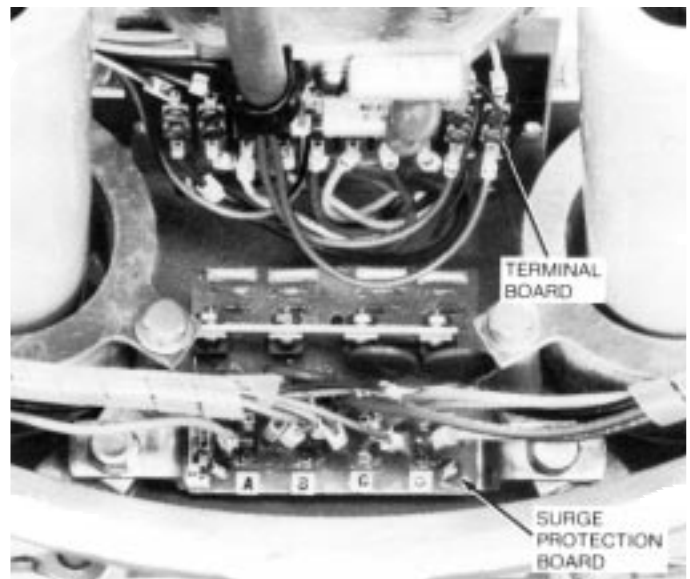

Figure 20.
3. Tag and disconnect the control cable leads attached to the terminal block (Figure 20). Also remove the control cable ground lead that is attached to the mechanism frame.